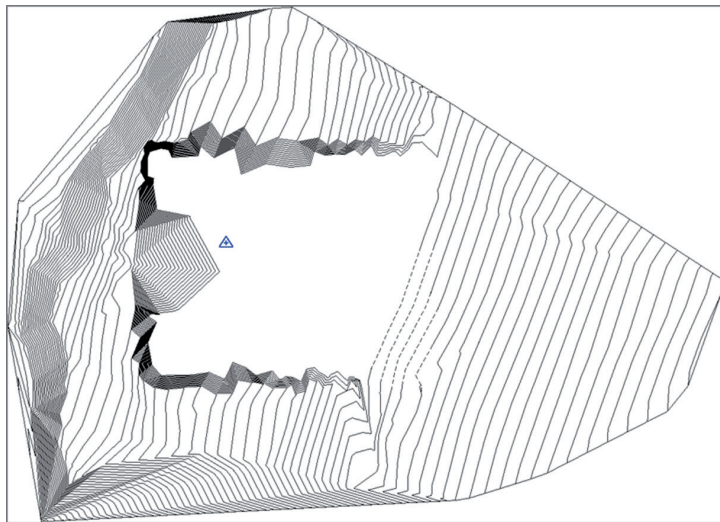

FIGURE BC3.38: The site with cuts and fills
12. Verify that your site appears similar to Figure BC3.38.